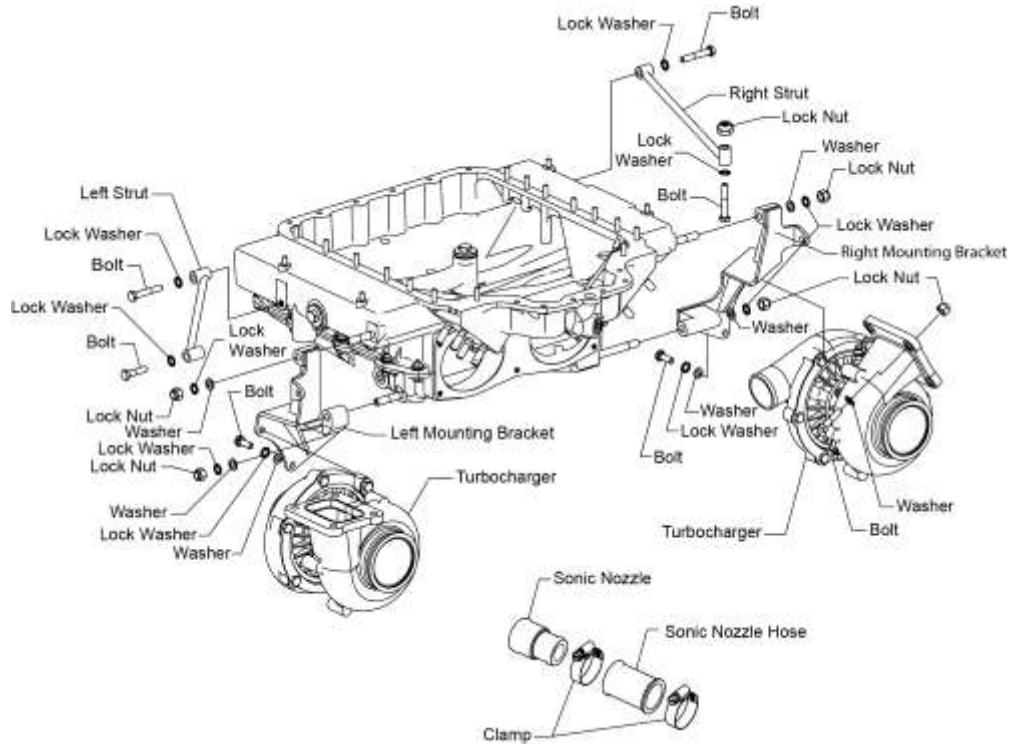

Figure 6
- J. Remove the bolt, lock washer, and washer from the mounting bracket (Figure 6) and turbocharger. Discard the lock washer.
- B. Apply a thin coat of C5-A copper based anti-seize lubricant to the inside diameter of the four lock nuts (Figure 6) that attach the turbocharger and exhaust transition (Figure 1).
- D. Install the bolt, a new lock washer, and washer on the respective mounting bracket (Figure 6) and applicable turbocharger. Torque the bolt as per torque values in the Standard Torque Tables in the latest revision of the *Service Table of Limits - SSP-1776*.